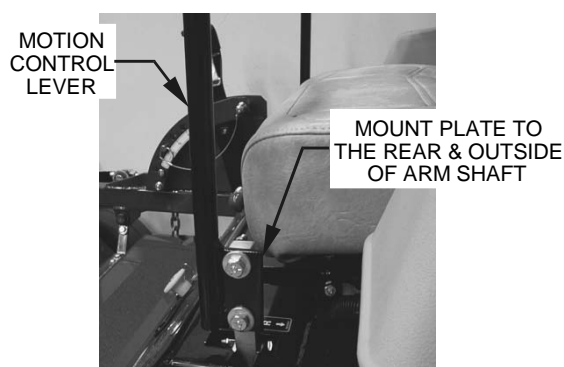

FIGURE 5
- Loosen and remove the two (2) 3/8" x 1" bolts and spring disc washers which attach the motion control levers to the control arm shafts for shipping and the two (2) 3/8" x 1" bolts and spring disc washers which are screwed into the control arm shafts.
- Install the left motion control lever onto the control arm shaft (See Figure 5) on the left side of the console. Place the lever (with the mounting plate towards the rear) on the **outside** of the control arm shaft and secure with the bolts and washers. Position the lever so the bolts are in the center of the slots on the lever mounting plate and tighten until snug. Repeat on opposite side of unit.